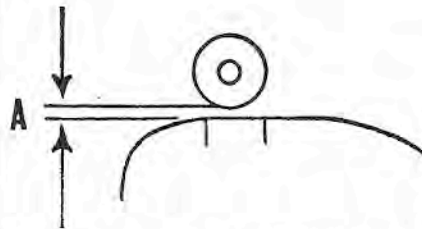

Fig. WB53—On 40 horsepower models, clearance (A) should measure 0.020, when follower is located between synchronizing scribe lines as shown.
On all 40 and 45 horsepower motors, refer to Fig. WB53. Center the cam follower roller between the two scribe marks on throttle cam as shown; then adjust the linkage so that a clearance (A) of 0.020 exists between throttle cam and follower roller.